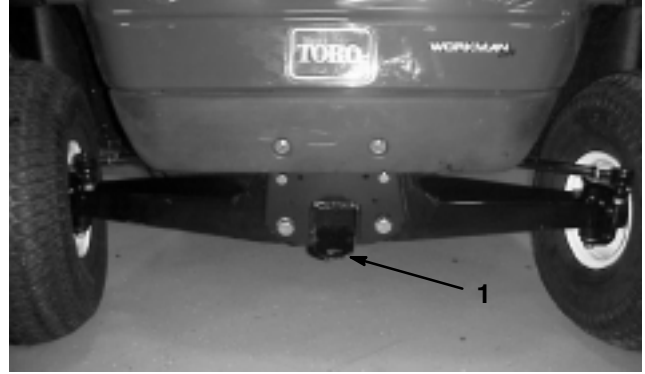

Figure 12
2. Affix a tow line to tongue on front frame member (Fig. 12).